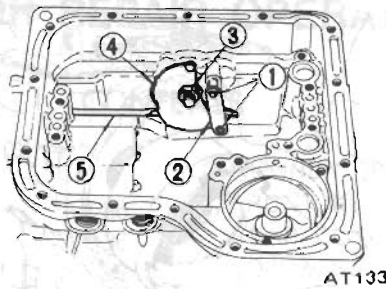

Fig. AT-67 Removing manual plate
21. Pry snap rings ① from both ends of parking brake lever ② and remove the lever. Back off manual shaft lock nut ③ and remove manual plate ④ and parking rod ⑤. See Figure AT-67.